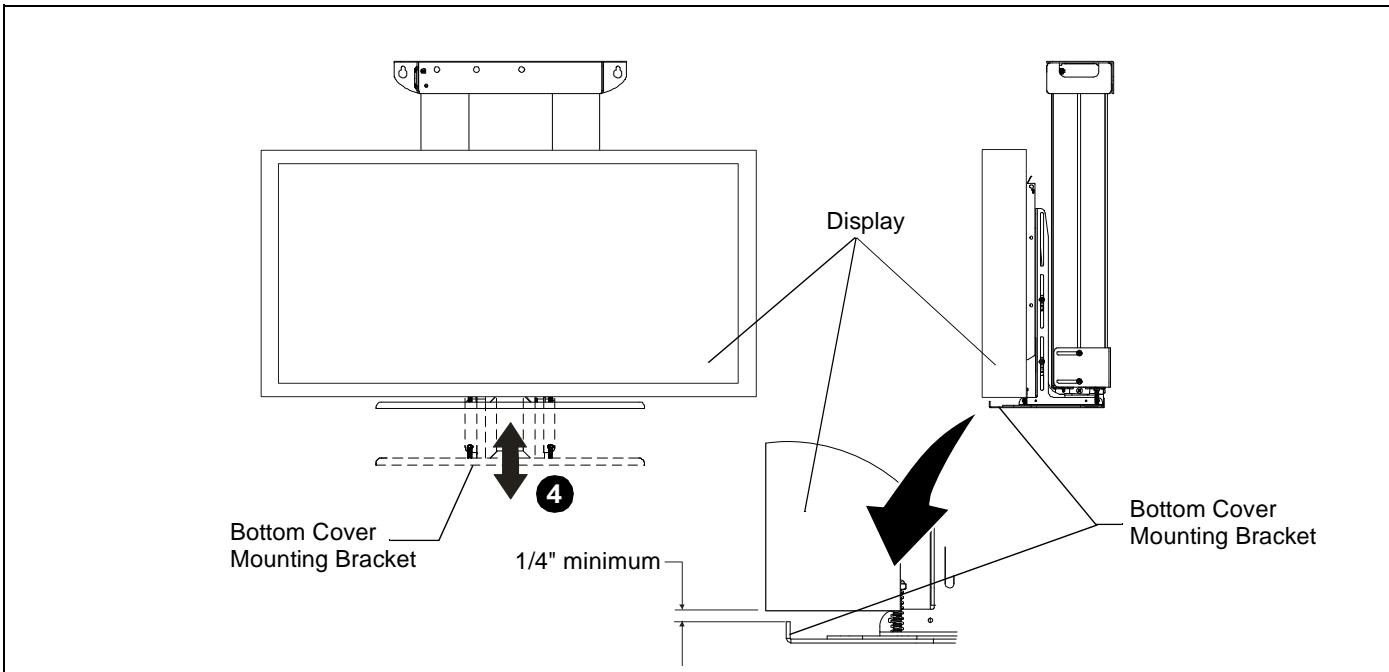

Figure 21
5. Slide bottom cover adjustment brackets upward or downward until lip on bracket is positioned  $\frac{1}{4}$ " below the bottom of display. (See figure 21)